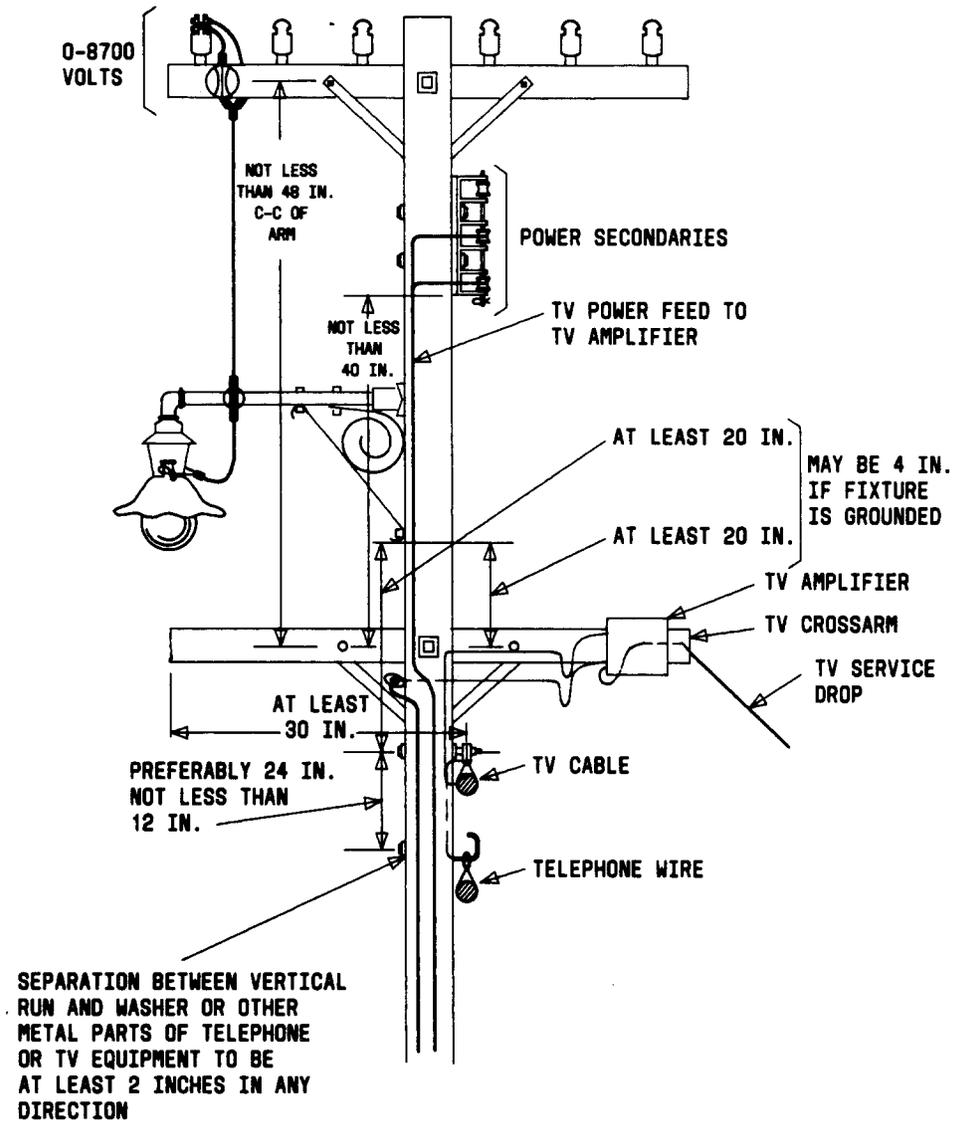

Fig. 20—Clearances of C Rural Wire From Licensee Attachments
4.05 Clearances from licensee cable, wire, and attachments are shown in Fig. 20.